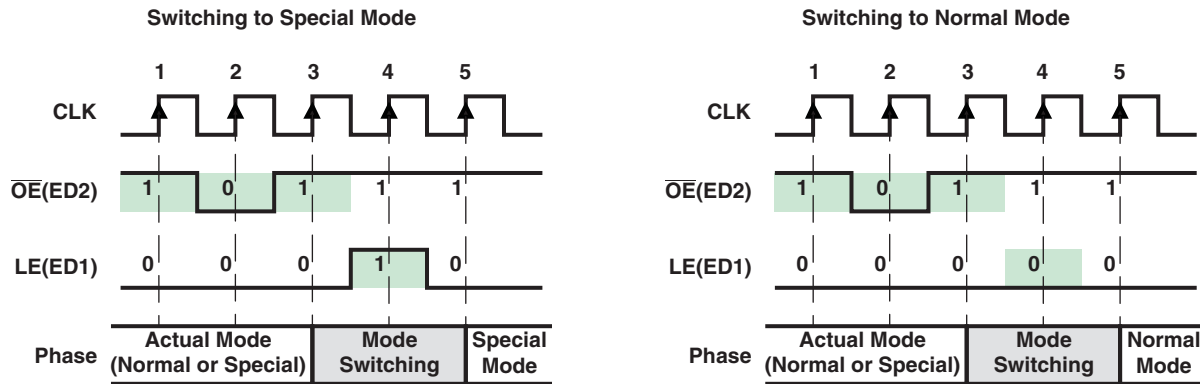

Figure 13. Mode Switching
In order to switch between its two modes, TLC592x-Q1 monitors the signal $\overline{OE}(ED2)$. When a one-clock-wide pulse of $\overline{OE}(ED2)$ appears, TLC592x-Q1 enters the two-clock-period transition phase, the Mode Switching phase. After power on, the default operation mode is the Normal Mode (see Figure 13).
As shown in Figure 13, once a one-clock-wide short pulse (101) of $\overline{OE}(ED2)$ appears, TLC592x-Q1 enters the Mode Switching phase. At the fourth rising edge of CLK, if LE(ED1) is sampled as voltage high, TLC592x-Q1 switches to Special mode; otherwise, it switches to Normal mode. The signal LE(ED1) between the third and the fifth rising edges of CLK cannot latch any data. Its level is used only to determine into which mode to switch. However, the short pulse of $\overline{OE}(ED2)$ can still enable the output ports. During mode switching, the serial data can still be transferred through SDI and shifted out from SDO.